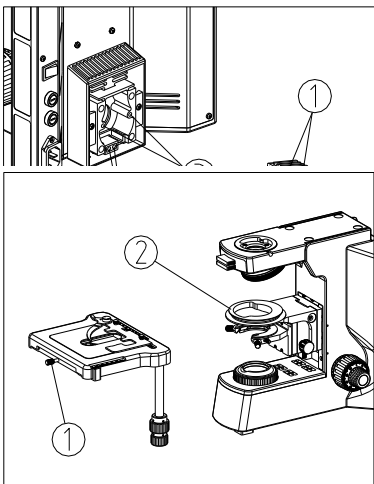

Fig. 5
(1) Loosen the lock-screw ① on the stage fully. (See Fig. 5)
(2) From a rear area of the rounded hole center on the base, carefully ring the two "V" buttons on the bottom of the stage into the "V" rounded groove ②, then screw down the lock screw ①.